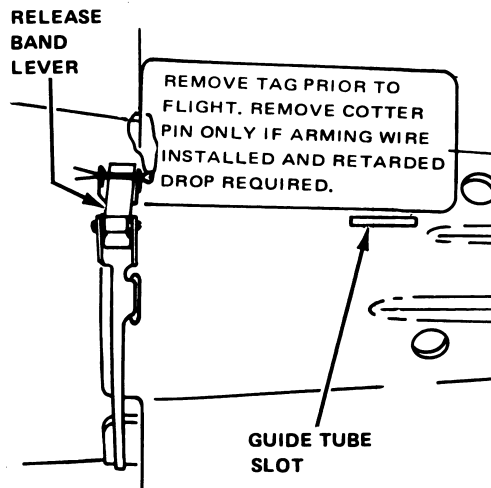

Figure 12-49.—Release band lever aligned with guide tube slot (Mod 3 and Mod 4 fins).
2. Verify that the release band lever is aligned with the guide tube slot, as shown in figure 12-49.